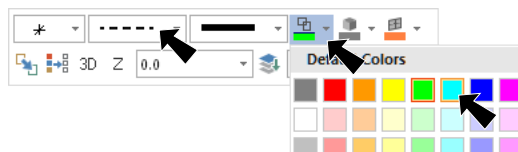

Fig. 16
Step 1. Sketch the next lines, the bend lines cyan color and dashed line style. **Right click** in the graphics window and on the Mini Toolbar click **Wireframe Color**  drop down arrow, set line style to **dashed** and select **cyan**, **Fig. 16**.